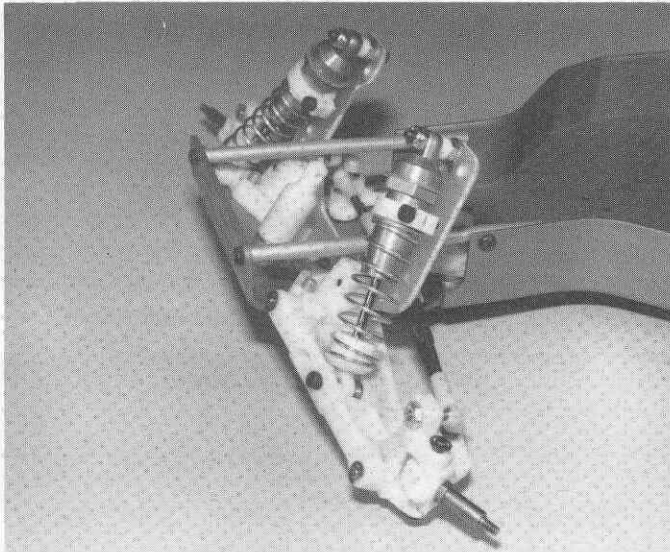

Fig. 132
□ **Fig. 132** Install the R.H. shock.